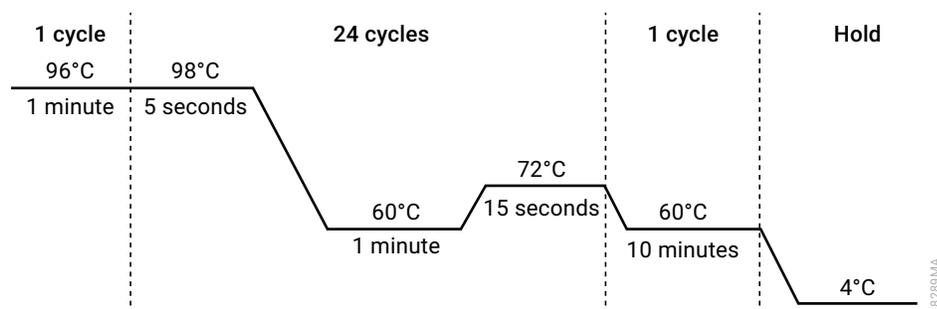

Figure 4. Thermal cycling protocol for the ProFlex® PCR System.
2. Select and run the recommended protocol, which is provided below and in Figure 4. The total cycling time is approximately 55 minutes.